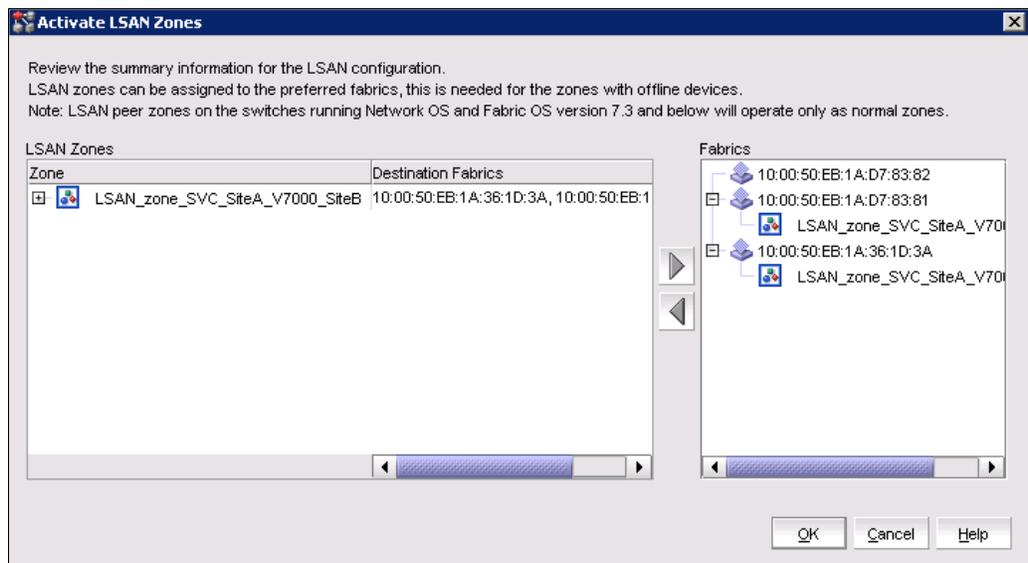

Figure 6-53 Active LSAN Zoning
7. Review the information in the Activate LSAN Zones window and click **OK** to confirm the activation (Figure 6-53).